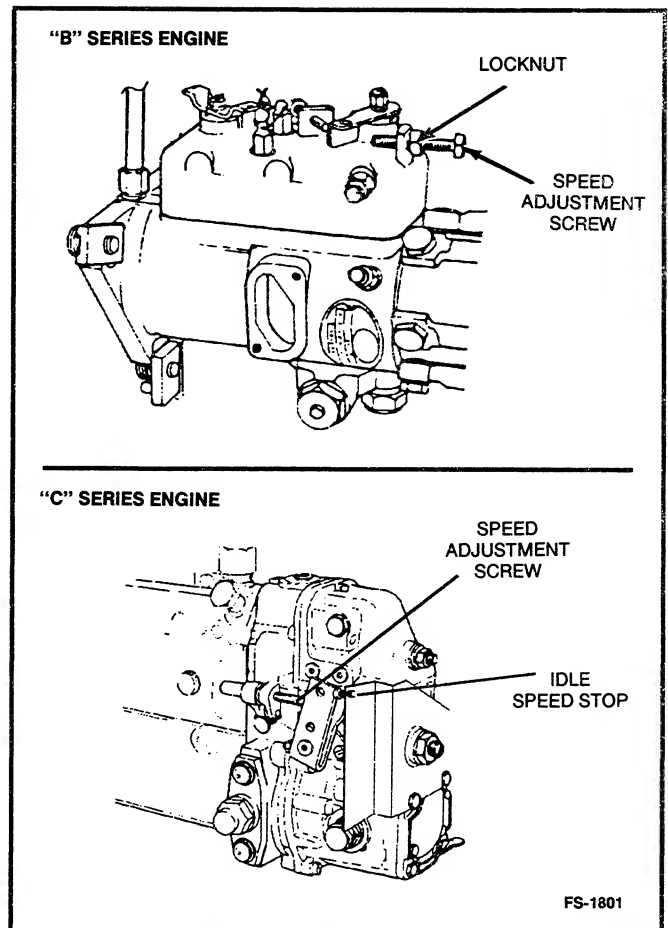

FIGURE 5-21. MECHANICAL GOVERNORS
2. Loosen the speed adjustment screw locknut. See Figure 5-21.